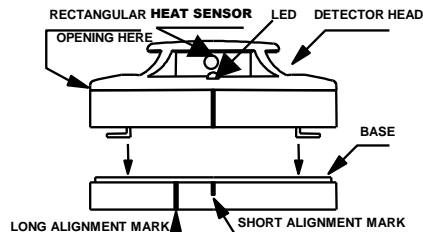

Fig. 2 Fitting detector head onto base
- Align the components as shown in Figure 2.